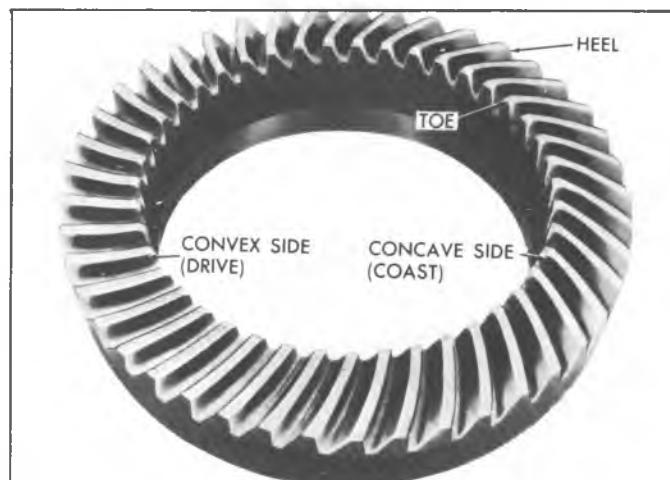

Fig. 29B—Gear Tooth Nomenclature
The side of the ring gear tooth which curves outward, or is convex, is referred to as the "drive" side. The concave side is the "coast" side. The end of the tooth nearest center of ring gear is referred to as the "toe" end. The end of the tooth farthest away from center is the "heel" end. Toe end of tooth is smaller than heel end. See Figure 29B.
5. Observe pattern on ring gear teeth and compare with Figure 29B.